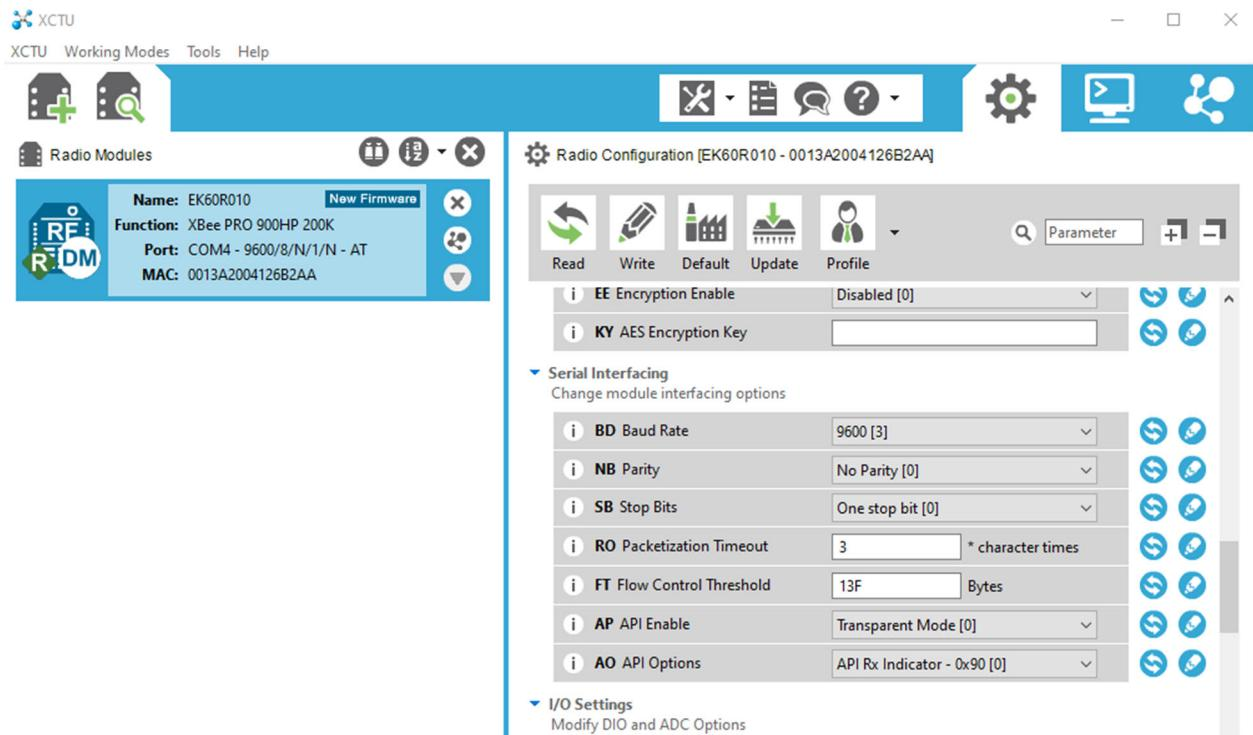

Figure 44: AP mode setting.
- k. **Return the system to transparent mode for operation with EchoCal.** Failure to do this will result in “lost communication” errors. Select the “Switch to Configuration working mode” toolbar in the main window to bring up the parameter settings for the EK60R010 base station. Using the scroll bar on the right side of the window, scroll down the parameter list until you get to the “Serial Interfacing” portion of the transceiver’s parameter list. Locate the “**AP API Enable**” parameter under the Serial Interfacing section. Click on this parameter to change the setting back to “**Transparent Mode [0]**” (Figure 44). This parameter will turn **GREEN**, indicating that a change was made to this parameter. Click on the red “**Pencil**” icon to the right of this parameter to save it to the transceiver. Once the “**Pencil**” icon is selected, the change will be written to the transceiver, and the parameter will turn **BLUE** in the window. **This change needs to be made to allow the transceiver to act as a serial line replacement to the downriggers.** Information about these modes can be found on page 47, “Serial Modes” of the XBee®-PRO 900HP/XSC RF Modules S3 and S3B User Guide.